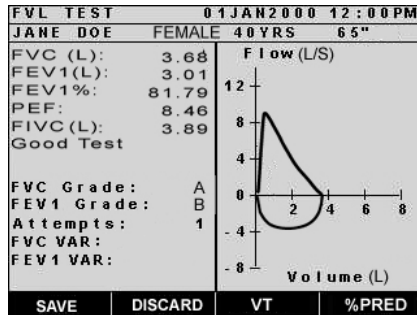

Figure 23: FVL Test Complete
8. Upon completion of the test maneuver the spirometer will display the flow-volume curve, measured values, quality message, quality grades, number of maneuvers performed, and FVC and FEV1 variability (Figure 23). To view the volume-time curve press the *VT* soft key. To view the results as a percentage of the predicted values, press the *%PRED* soft key.